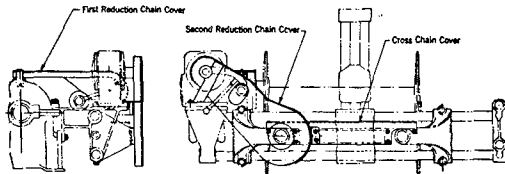

Fig. 5—Chain Covers for CH Winch Rope Winder
3.09 *The winch rope winders shall not be operated unless the chain covers provided as component parts of the winders are in place.* Chain covers for the CH winch rope winder are shown in Fig. 5.